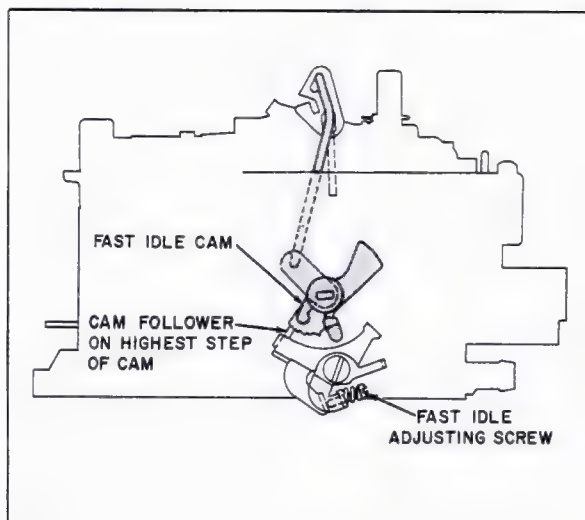

Fig. 6-89 Fast Idle Adjustment
## 92. Fast Idle Adjustment (On Car) (Fig. 6-89)
3. Open throttle slightly. Set fast idle cam follower on highest step of cam, Fig. 6-89.
5. Observe idle speed and adjust fast idle screw, Fig. 6-89, to give 1900-1950 rpm with transmission in Neutral. Return engine to normal idle and install air cleaner.